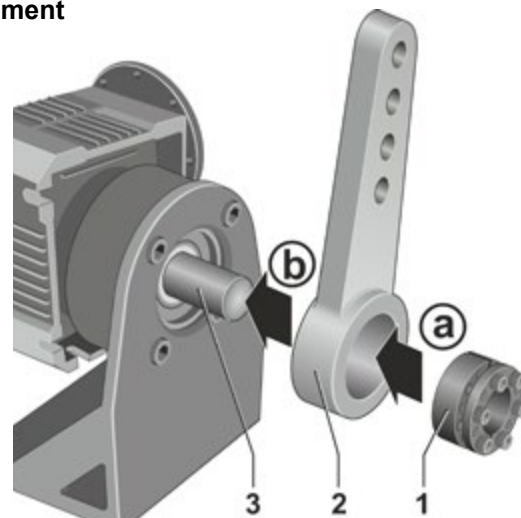

Fig. 1: Place cone clamping element and swing lever
3. Fit cone clamping element (fig. 1, item 1) into the swing lever (item 2) (a) and slide onto the shaft (item 3) (b).
Fasten screws with washers (fig.1, item 1) evenly crosswise.